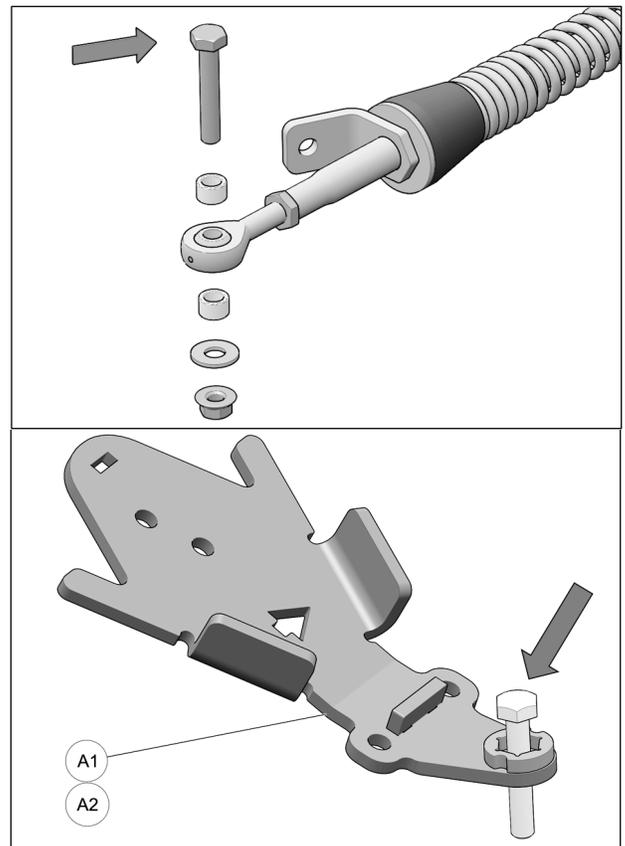

Fig. 9
- Remove bolt, washer and bushings from front stabilizing rod end and insert bolt in front anchor bracket (A1-A2) as shown in Fig. 9